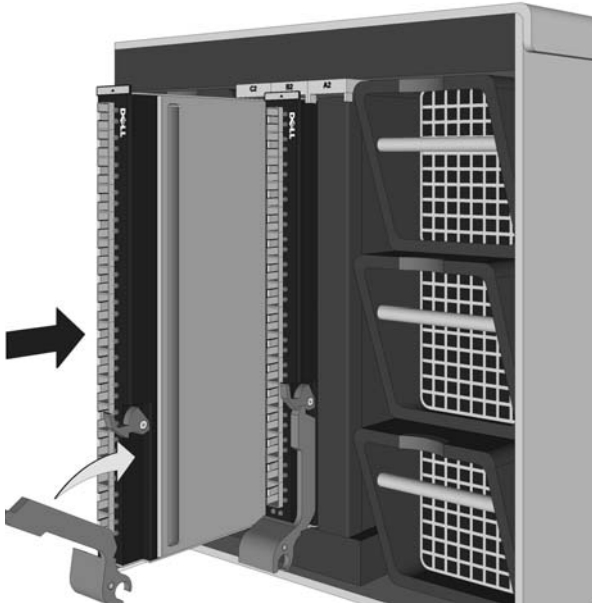

Figure 1-2. Installing the Pass-Through Module
- 5 Rotate the latching arm upward until it is flush against the front panel, and the top of the arm is seated in the latch, as shown in Figure 1-2, Installing the Pass-Through Module.